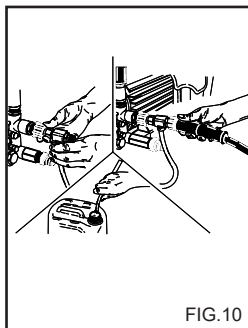

FIG.10
**BRUK AV SETT FOR VASKE-MIDDELØPPSUGING (fig. 10). (Ekstraustyr)**